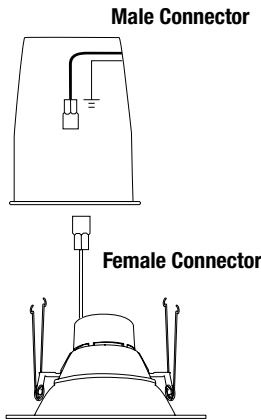

Figure 3
1. Connect orange female to male connector of the fixture to housing. (Figure 3)